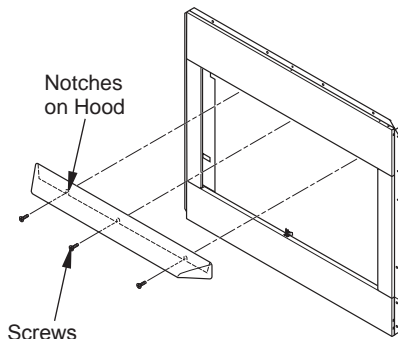

Figure 7 - Installing Hood
2. Align three notches located on back side of hood with front face of fireplace (see Figure 7). Notches should be at least 3 1/2" up from edge of fireplace opening.